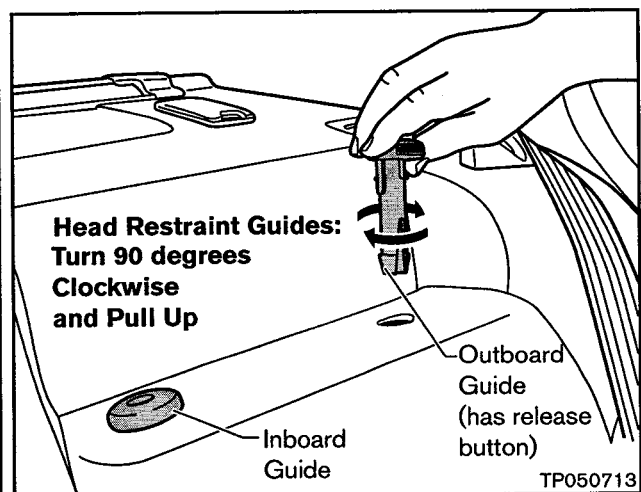

Figure 5b
- b. Remove the rear Head Restraint Guides (see Figure 5b).
- ▶ Driver's side Upper Seat Back: Release Button-Guide installed at the outboard location (refer to Figure 5b).